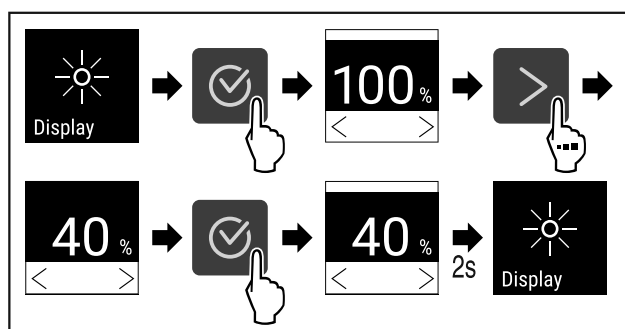

Fig. 77
- Complete the steps (see Fig. 77) .